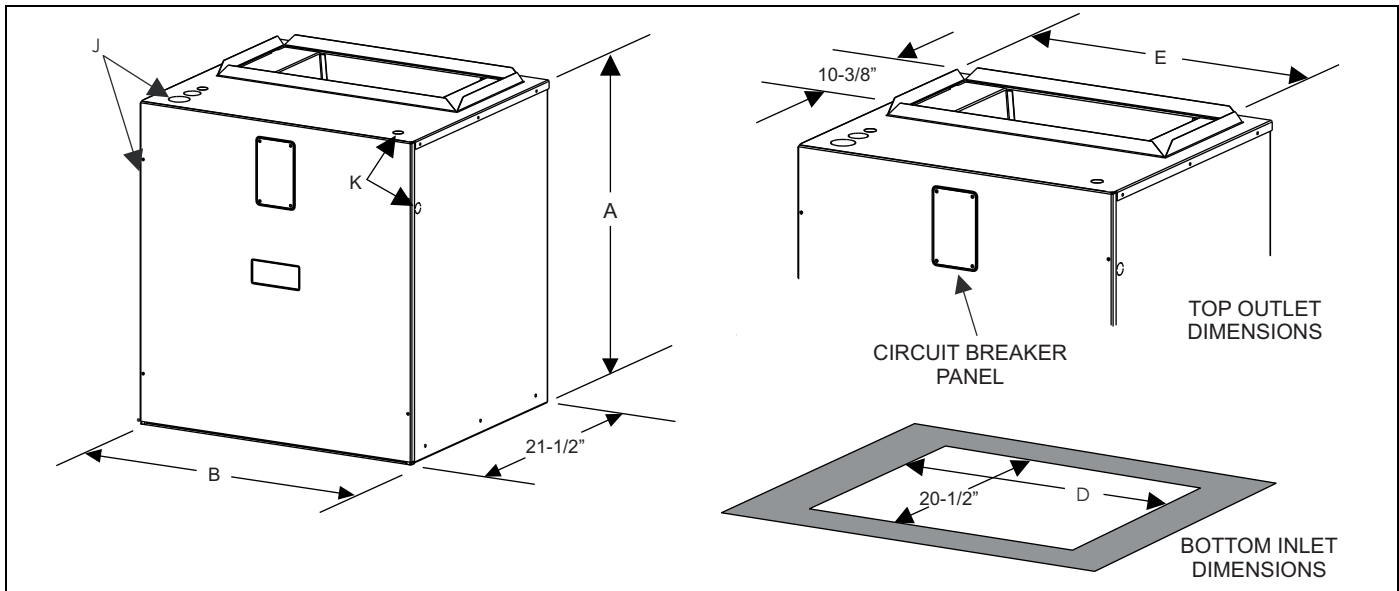

FIGURE 3: Dimensions & Duct Connection Dimensions
2. Refer to the unit rating plate for the air handler model number, and then see the dimensions page of this instruction for supply air plenum dimensions in Figure 3. The plenum must be installed according to the instructions.
Air supply and return may be handled in one of several ways best suited to the installation. See Figure 3 for dimensions for duct inlet and outlet connections.
The supply air duct should be properly sized by use of a transition to match unit opening. All ducts should be suspended using flexible hangers and never fastened directly to the structure. This unit is not designed for non-ducted (freeblow) applications. Size outlet plenum or transition to discharge opening sizes shown in Figure 3.
Field supplied low voltage wiring can exit the unit on the top right hand corner or the right hand side panel. Refer to Figure 3.